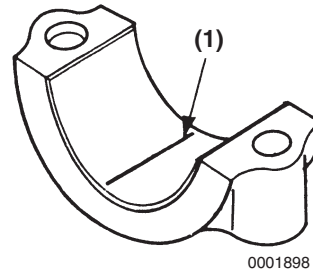

Figure 6-105
- (b) Place a piece of PLASTIGAGE (**Figure 6-105, (1)**) along the full width of each bearing insert.